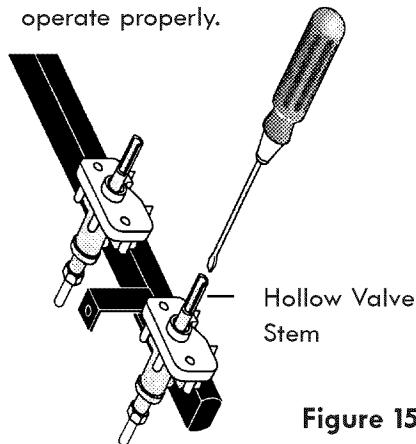

Figure 15
13.4 Adjust the "LOW" Setting of Surface Burner Valves (linear flow and three position valves) (Fig 15)